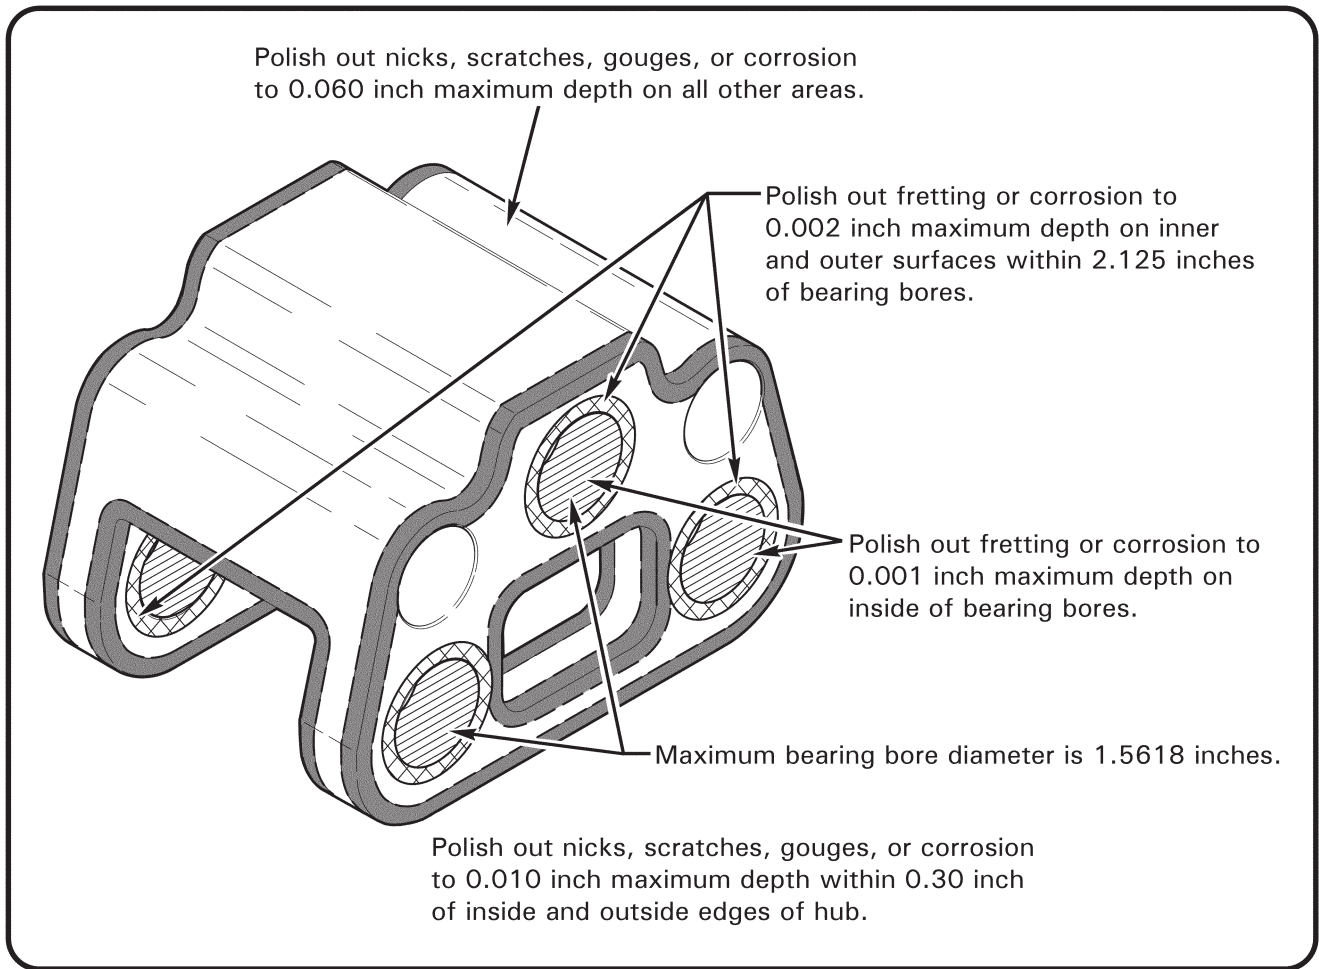

FIGURE 62-5 MAIN ROTOR HUB REPAIR LIMITS
3. Refer to Figure 62-5. If required, polish surfaces using 320-grit or finer wet-or-dry aluminum oxide abrasive paper to 0.25 inch minimum blend radius.